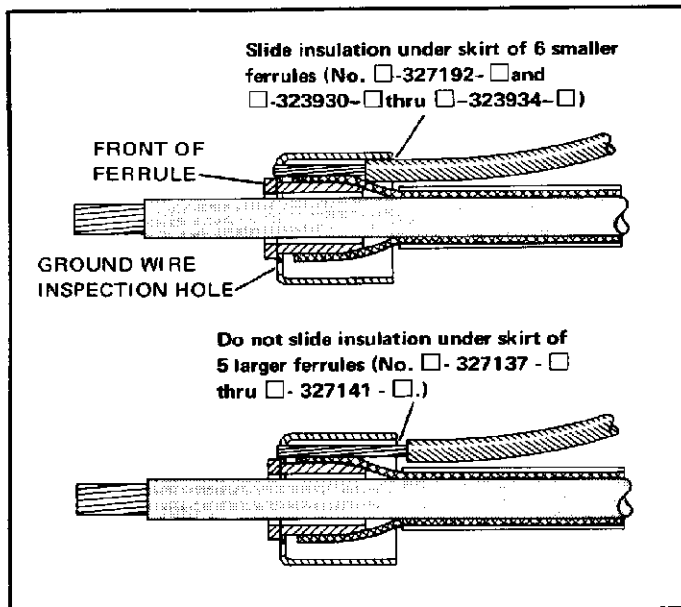

Figure 10
- (b) Insert ground wire into ferrule. See Figure 10.